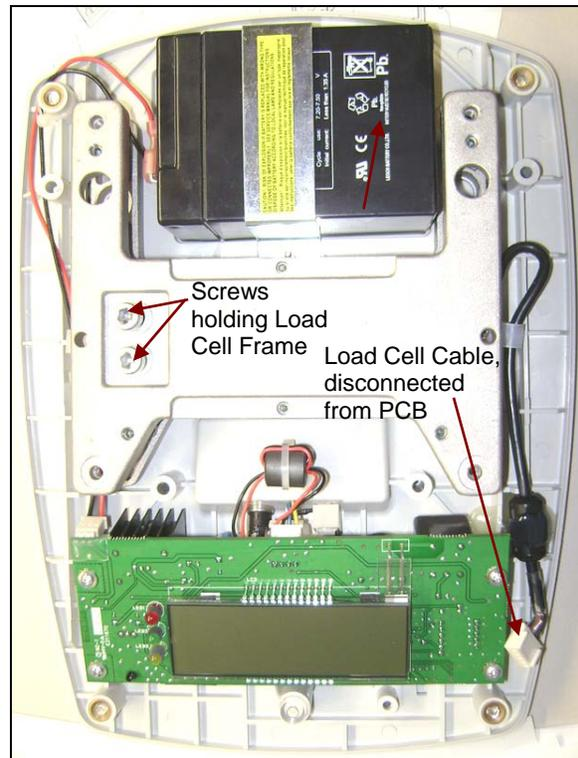

Figure 3-2. Valor 5000 with Top Housing off.
2. Disconnect the Load Cell Cable from the PCB. (See Figure 3-2.)